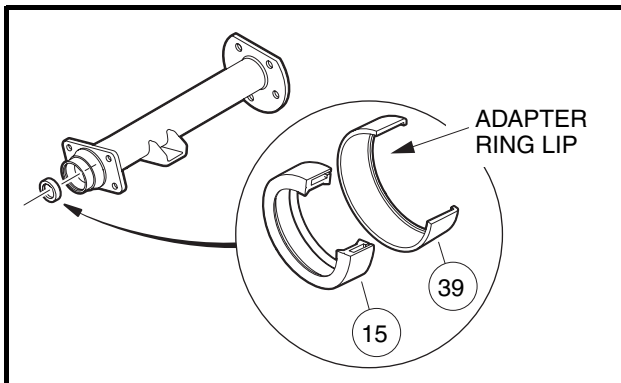

Figure 23-3 Axle Seal and Adapter Ring
- 5.2. Use a press to separate the axle oil seal (15) from the adapter ring (39) **(Figure 23-3, Page 23-2).** Retain the adapter ring and discard the oil seal.
- 1.1. Clean seal seat in the adapter ring (39) (**Figure 23-3, Page 23-2**).